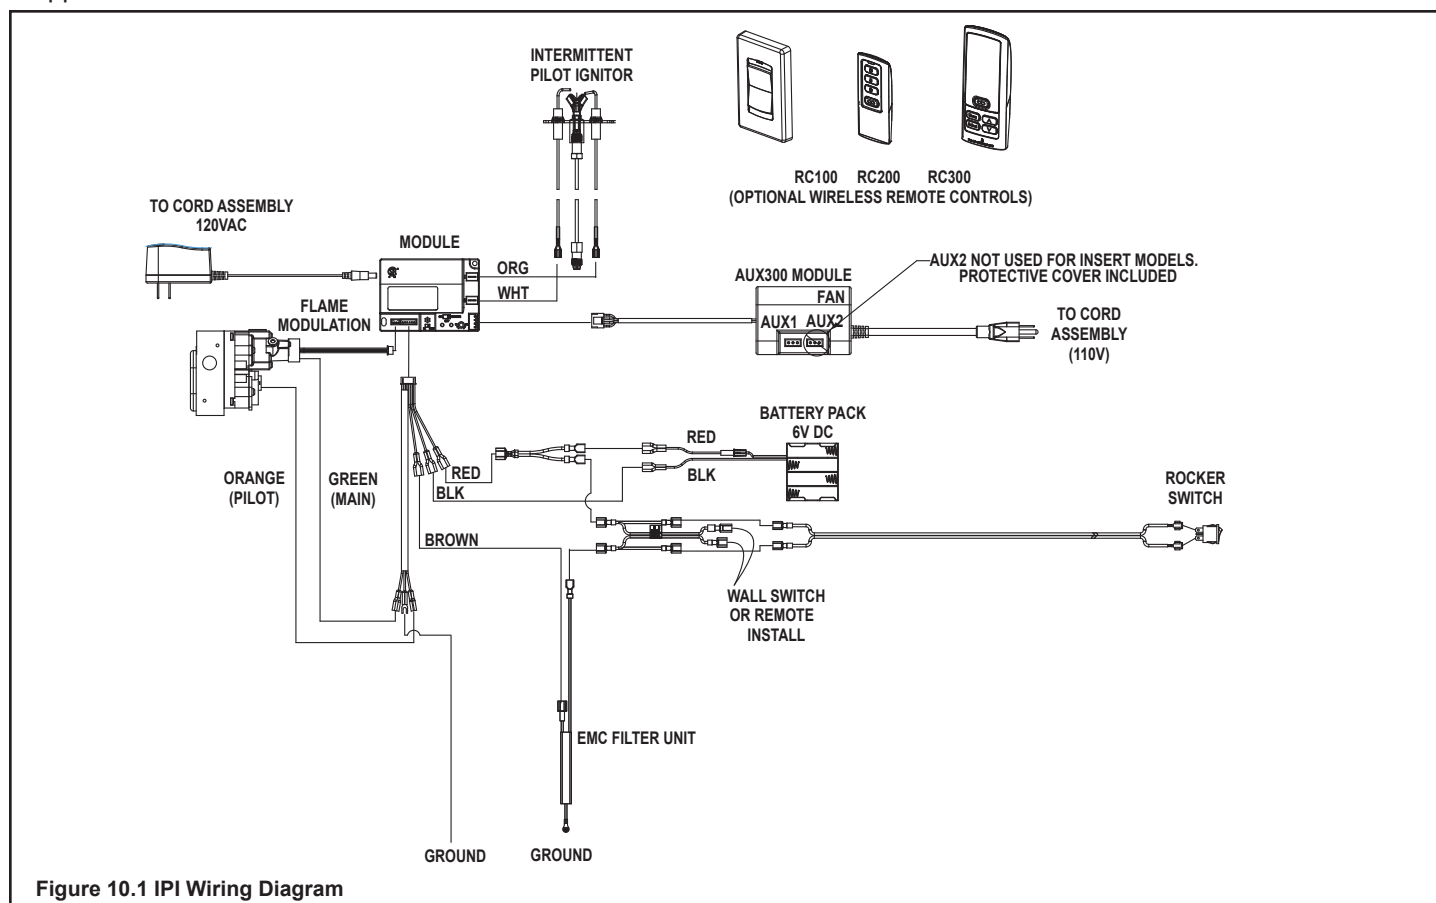

Figure 10.1 IPI Wiring Diagram
- Refer to Figure 10.1, IPI Wiring Diagram.
- If desired an additional wall switch or thermostat may be added to system as shown in Figure 10.1.